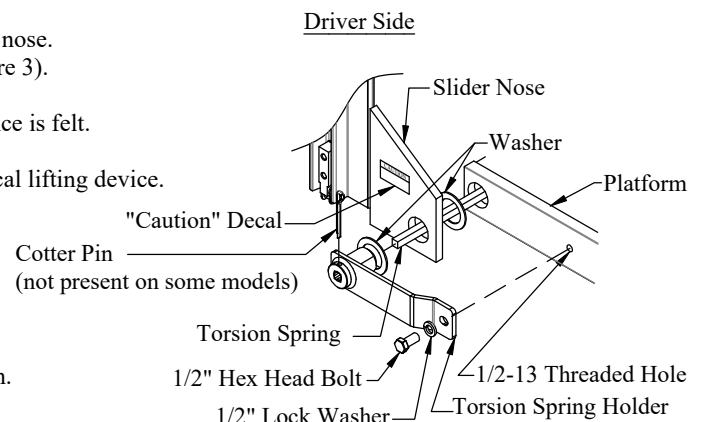

Figure 6: Torsion spring hardware.
24. Attach the torsion spring holder to the slider nose using the supplied bolt and lock nut (Figure 6).